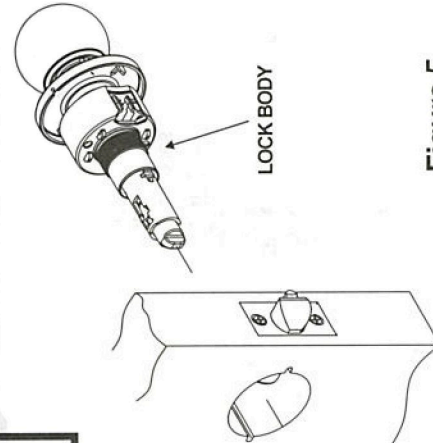
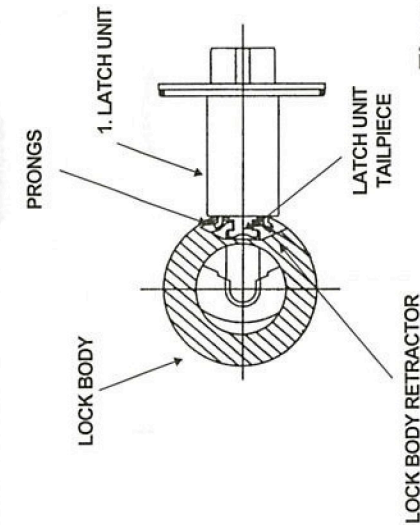

Figure 5.
Figure 6.
1. Slide lock body into cross-bore hole from outside position. (See Figure 5 & Figure 6.)
2. The lock body must engage the latch unit prongs as shown in Figure 6. The lock body retractor must engage the latch unit tailpiece.